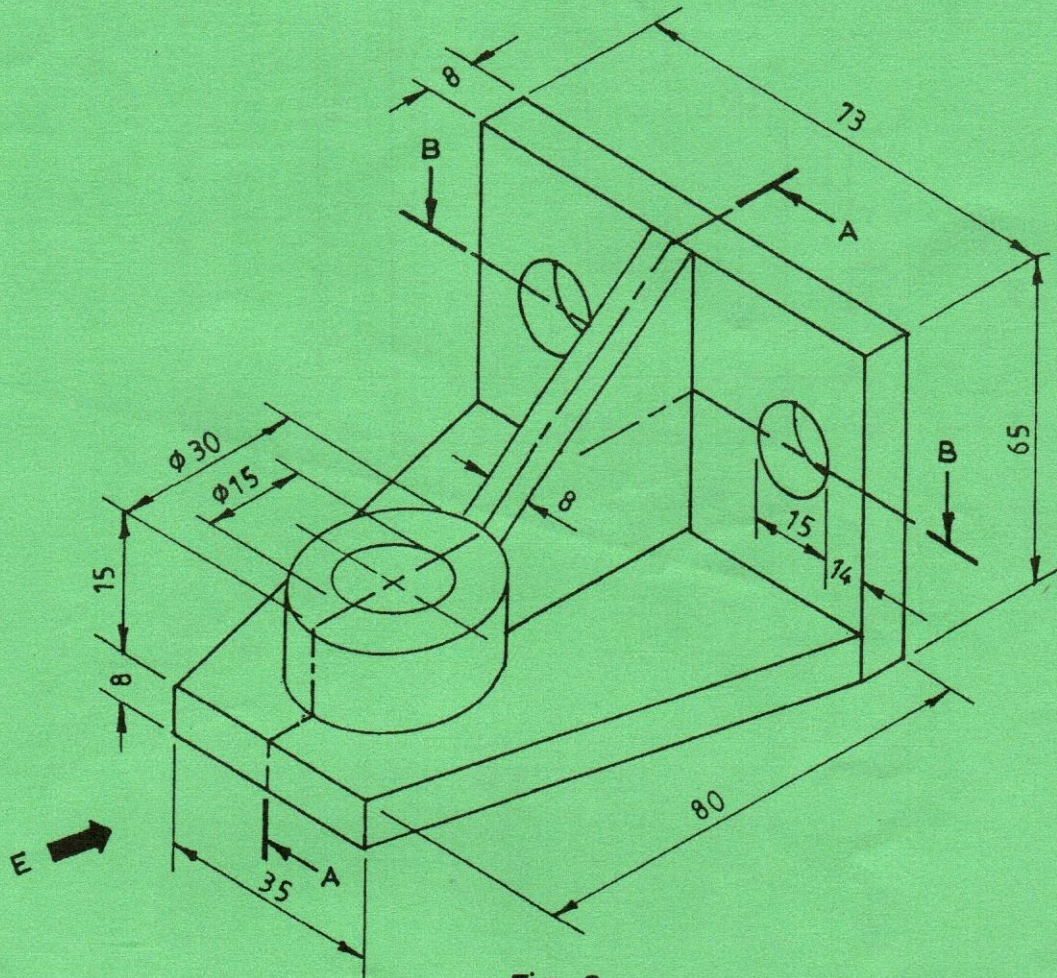

Fig. 3
6. Figure 3 shows a pictorial view of a bracket. Draw full size in first angle projection the following views: